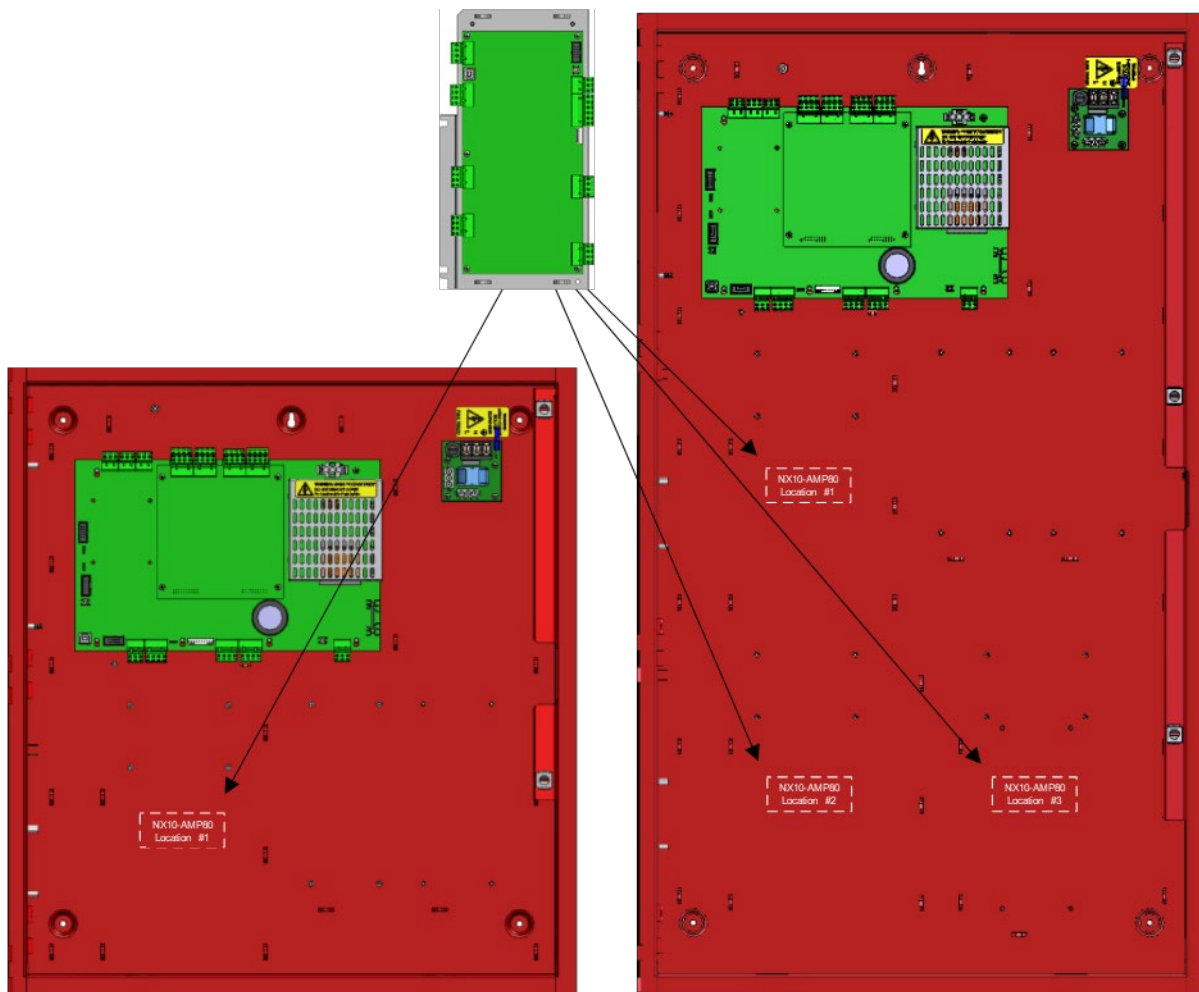

Figure 25 - NX10-AMP-80 Mounting Locations
The NX10-CC01-BB (3x3) command centre backbox can support one NX10-AMP-80 module, while the NX10-CC02-BB (3x5) command centre back box can support three (Figure 25). Each pre-configured command centre includes one audio amplifier module.
1. Install the NX10-AMP-80 audio amplifier module with plate assembly in one of the available mounting locations within the backbox below the NX10-ACS base card (Figure 25).